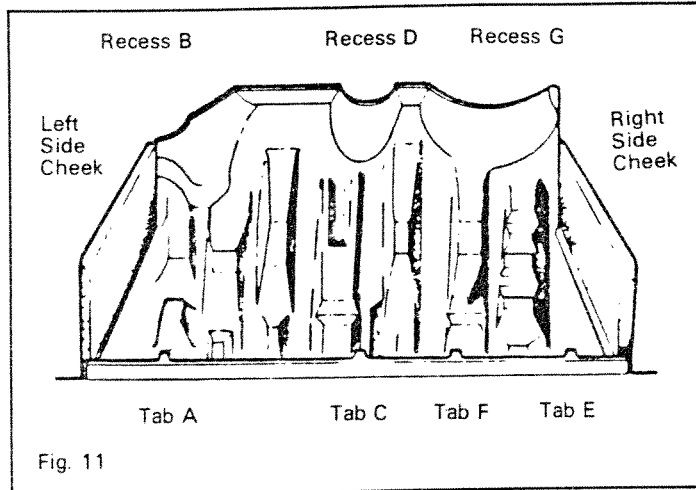

Fig. 11
- (c) Take the ceramic side cheeks from the pack and place in position. The cheeks are left and right handed. (See Fig. 11).
- (i) (Refer to Figs 11 & 12). Place the log No 1 at the left side of the log support bed. Locate the hole at the front edge of the log onto tab 'A' on the front log support rail and locate the projection underneath the log into recess 'B' in the ceramic support bed.